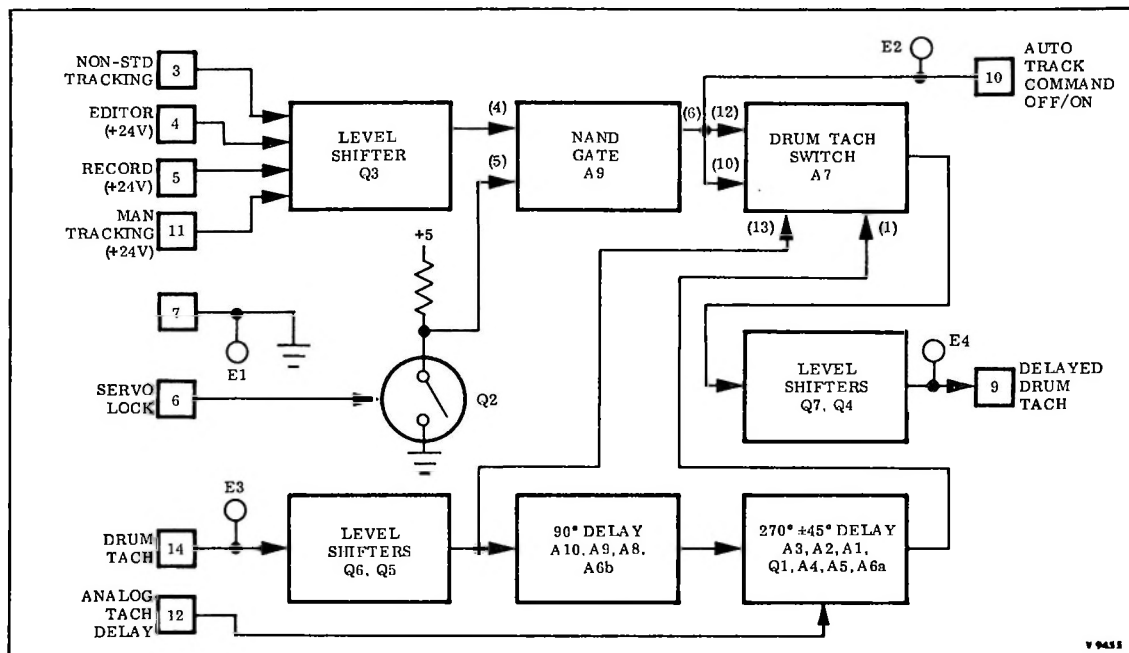

Figure 4-5. Auto Tracking Tach Delay and Control Functional Block Diagram
4-41 The auto tracking tach delay and control circuitry consists of: (1) level shifters Q6, Q5; (2) 90-degree delay circuit A10, A9, A8, A6; (3) 270 ± 45 -degree circuit comprised of A3, A2, A1, Q1, A4, A5, A6; (4) drum tach switch A7; (5) level shifter Q7, Q4; (6) level shifter Q3; (7) NAND gate A9; (8) bidirectional switch Q2; and associated components. Figure 4-5 depicts a functional block diagram of the auto tracking tach delay and control circuitry.